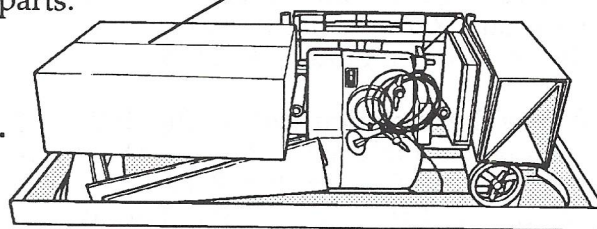

Fig. B-1
- ✓ 3. Lift off the top of the box and set it aside. Your Mark V should look like Fig. B-1. Also, you should have moved the big accessories box aside and opened it.